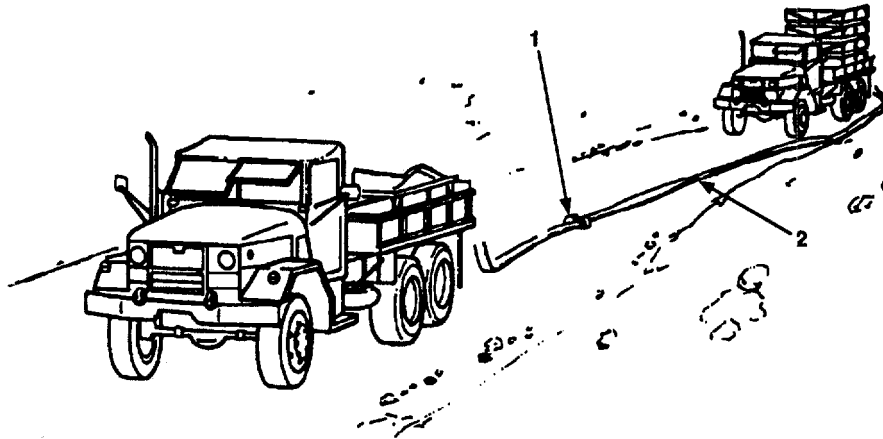

Figure 2-36. Swivel Joint Connection.
Swivel joints (Figure 2-36, 1) must be installed at every 1,000 feet in hoseline (2). If not installed, hoseline (2) will twist during startup and cause damage to equipment.
- j. Repeat steps a through i (leaving out step g) to connect each truckload of hoseline to sections already laid. Be sure to install swivel joints (Figure 2-36, 1) at every 1,000 feet in hoseline (2).
- k. Connect hoseline (2) to each boost pumping station and storage assembly as those installation sites are reached.
Assemble as shown in Figure 2-36.